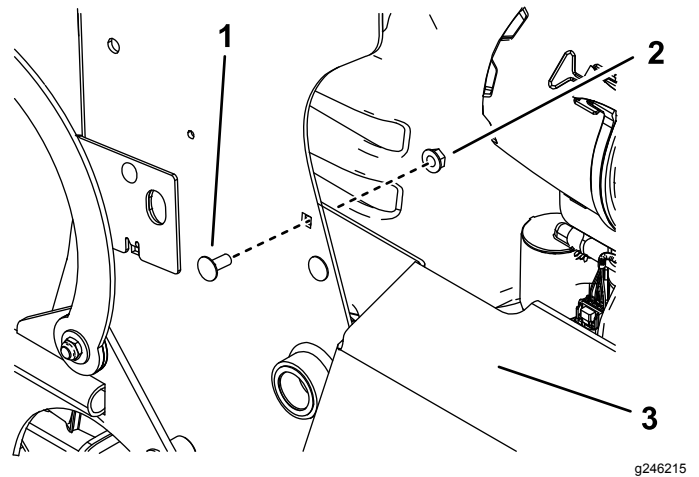

Figure 6
3. Remove the top carriage bolt and nut securing the muffler guard to the machine (Figure 6).